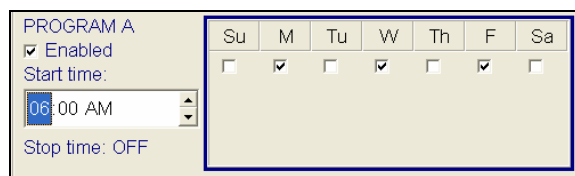

Figure 16.1.10C
8. Click on the **Start time:** box and use the **UP** and **DOWN** arrows to set the time that you want this schedule to begin (Figure 16.1.10C).